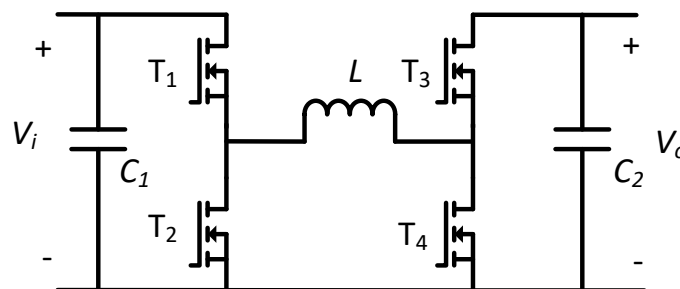

Fig. 3: Full-bridge Buck-Boost converter
- (b) A full-bridge Buck-Boost converter is shown in Fig.3. In Boost mode, the output voltage V_o is larger than the input voltage V_i . In Buck mode, the output voltage V_o is smaller than the input voltage V_i . The deadtime is neglected.